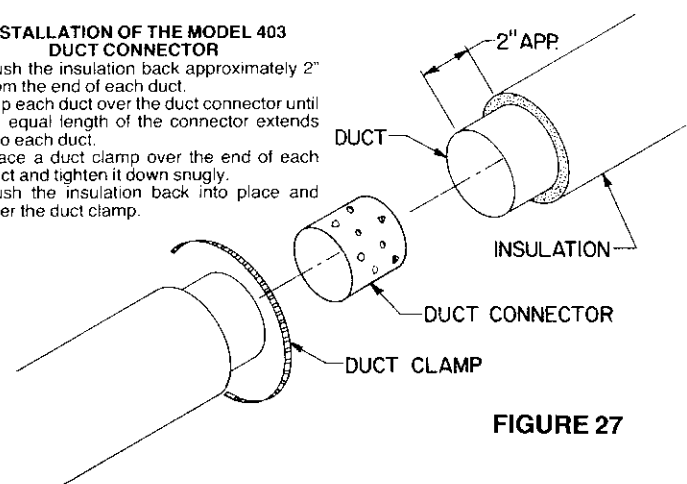

FIGURE 27
- NOTE:** If the wall covering is brick or stone, use appropriate masonry fasteners. Mount the combustion air assembly with "TOP" upward to prevent rain from entering the assembly. Be sure the 6 inch diameter opening around the air duct is sealed with insulation material to prevent cold air from entering through the wall. If it is necessary to splice the duct, a model 403 duct connector should be installed as described by figure 27.